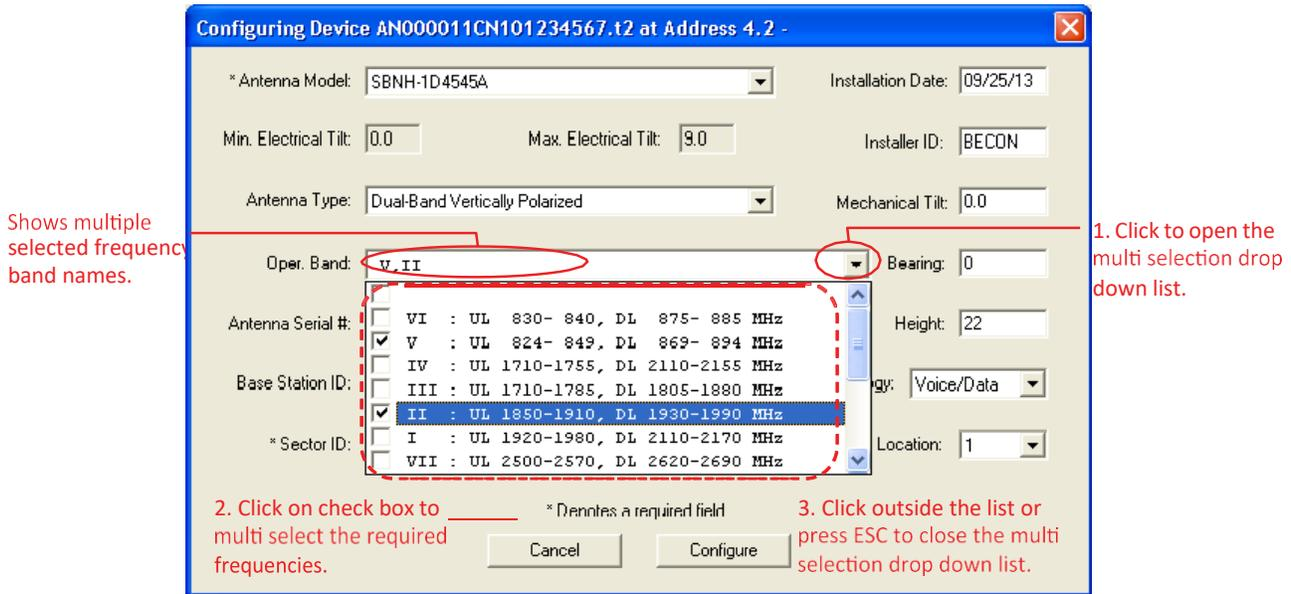

Figure 6-3. Multiple Frequency/Operating Band Selection
- Frequency band (AISG 1.1)/Operating Band (AISG 2.0) value can have multiple values set. Click on the drop down arrow in the list to open the multi selection list. Make selection by clicking on the check box for the relevant frequency. Click outside the list or press ESC key to close the list (Figure 6-3).